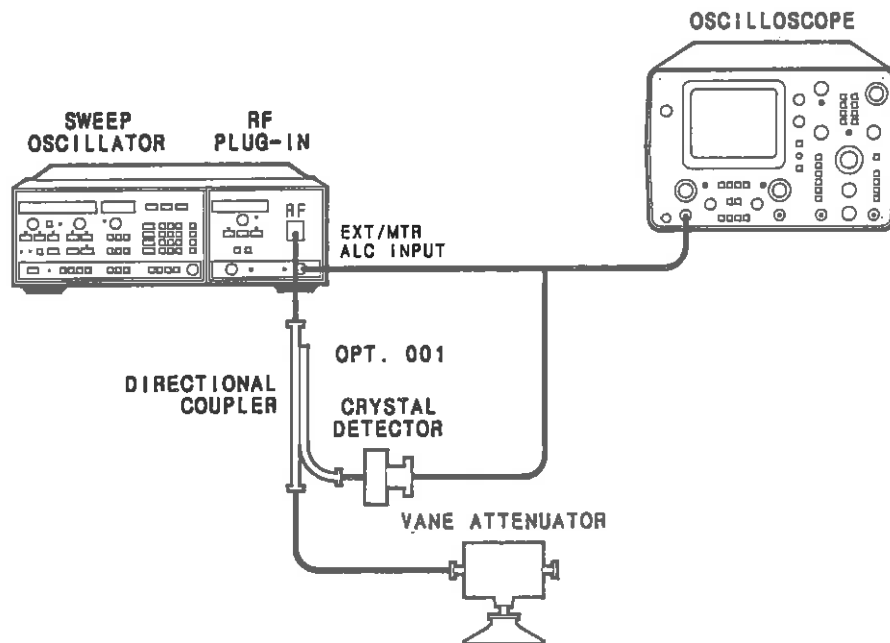

Figure 5-16. ALC Gain Adjustment Setup
1. Connect the equipment as shown in figure 5-16.